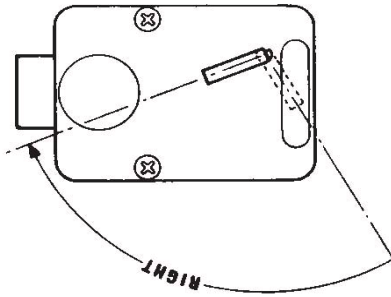

Figure 1.
2. With the last number set at the changing index, hold the dial securely and insert the change key in the keyhole in the back of the lock. Make sure the wing is entirely inside the lock and comes to a positive stop (see Figure 1) before turning the key.
6. Turn the dial to the **Left**, stopping when the third number is aligned with the '**Change Index**', the **Second** time. Holding the dial in this position, turn the change key back to the **Right** and remove it. (See Figure 1.) The new combination you have chosen is now set in the lock,